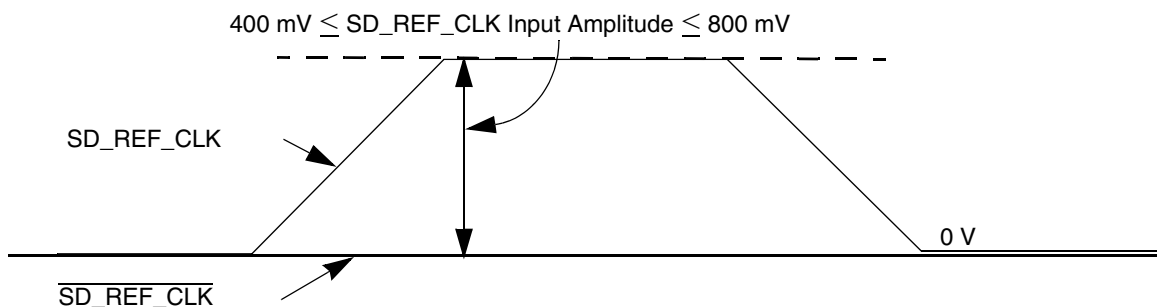

Figure 54. Single-Ended Reference Clock Input DC Requirements
- The SD\_REF\_CLK input average voltage must be between 200 and 400 mV. Figure 54 shows the SerDes reference clock input requirement for single-ended signaling mode.